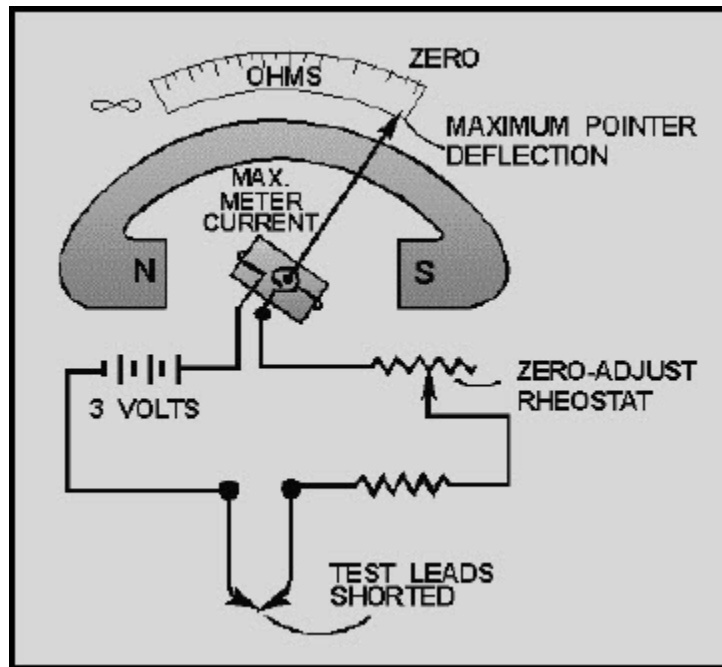

Figure 1-31 A simple ohmmeter circuit
3. A simple ohmmeter circuit is shown in figure 1-31.
The ohmmeter's pointer deflection is controlled by the amount of battery current passing through the moving coil. Before measuring the resistance of an unknown resistor or electrical circuit, the test leads of the ohmmeter are first shorted together, as shown in figure 1-31. With the leads shorted, the meter is calibrated for proper operation on the selected range. While the leads are shorted, meter current is maximum and the pointer deflects a maximum amount, somewhere near the zero position on the ohms scale. Because of this current through the meter with the leads shorted, it is necessary to remove the test leads when you are finished using the ohmmeter. If the leads were left connected, they could come in contact with each other and discharge the ohmmeter battery. When the variable resistor (rheostat) is adjusted properly, with the leads shorted, the pointer of the meter will come to rest exactly on the zero position. This indicates **ZERO RESISTANCE** between the test leads, which, in fact, are shorted together. The zero reading of a series-type ohmmeter is on the right-hand side of the scale, where as the zero reading for an ammeter or a voltmeter is generally to the left-hand side of the scale. (There is another type of ohmmeter which is discussed a little later on in this chapter.) When the test leads of an ohmmeter are separated, the pointer of the meter will return to the left side of the scale. The interruption of current and the spring tension act on the movable coil assembly, moving the pointer to the left side (∞) of the scale.